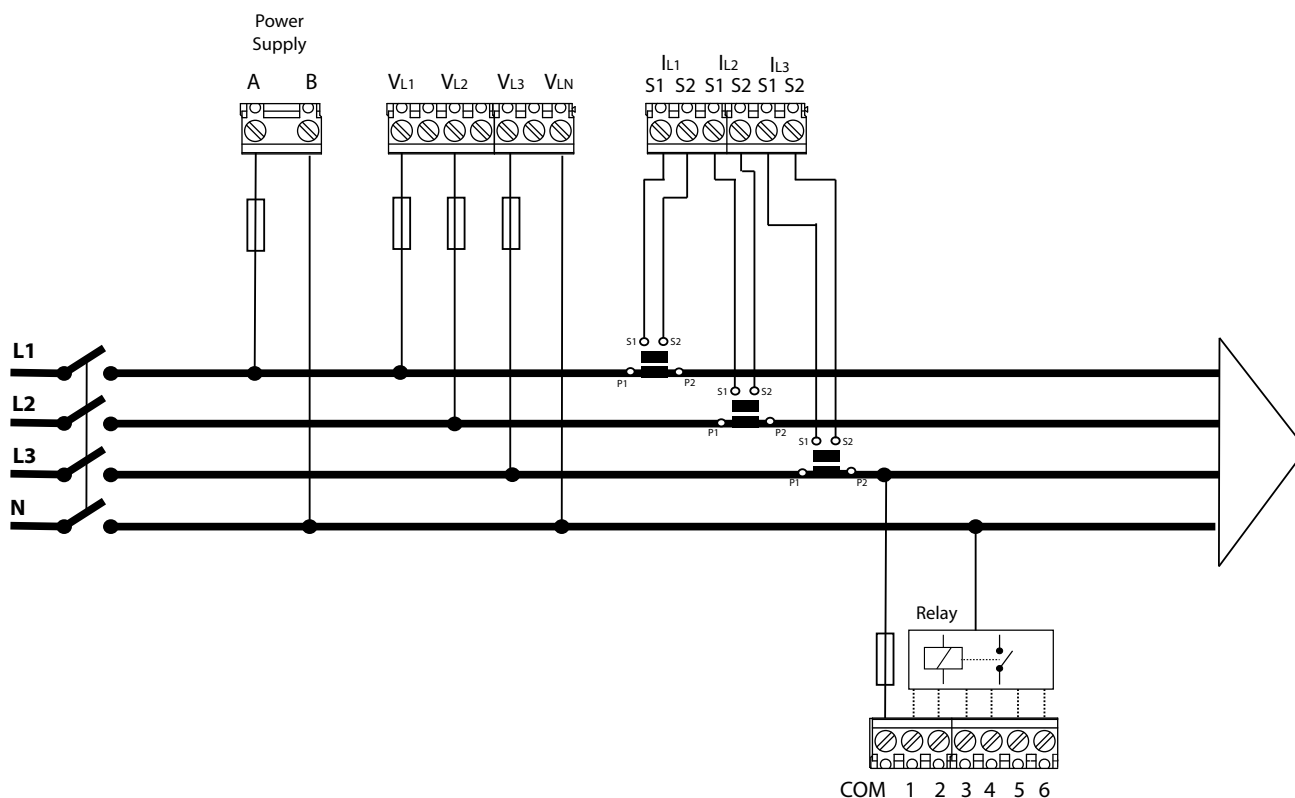

Figure 3: 3 voltages + neutral and 3 currents, Controller MASTER control VAR 6 model.
**NB:** The auxiliary power supply can be connected Phase-Neutral (as in Figure 3) or Phase-Phase, as long as the power supply range is not exceeded (see “6.- TECHNICAL FEATURES”).